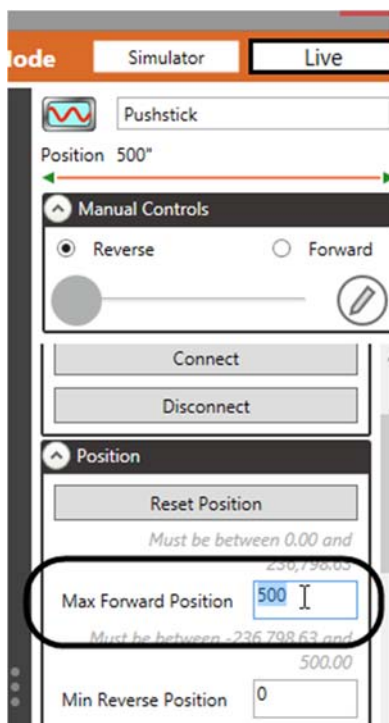

Figure 89
7. In the **Position** section of the **Stagehand Editing Pane**, enter your current motor position as the **Max Fwd Position** (Figure 89), which will prevent you from writing cues greater than the current motor position.